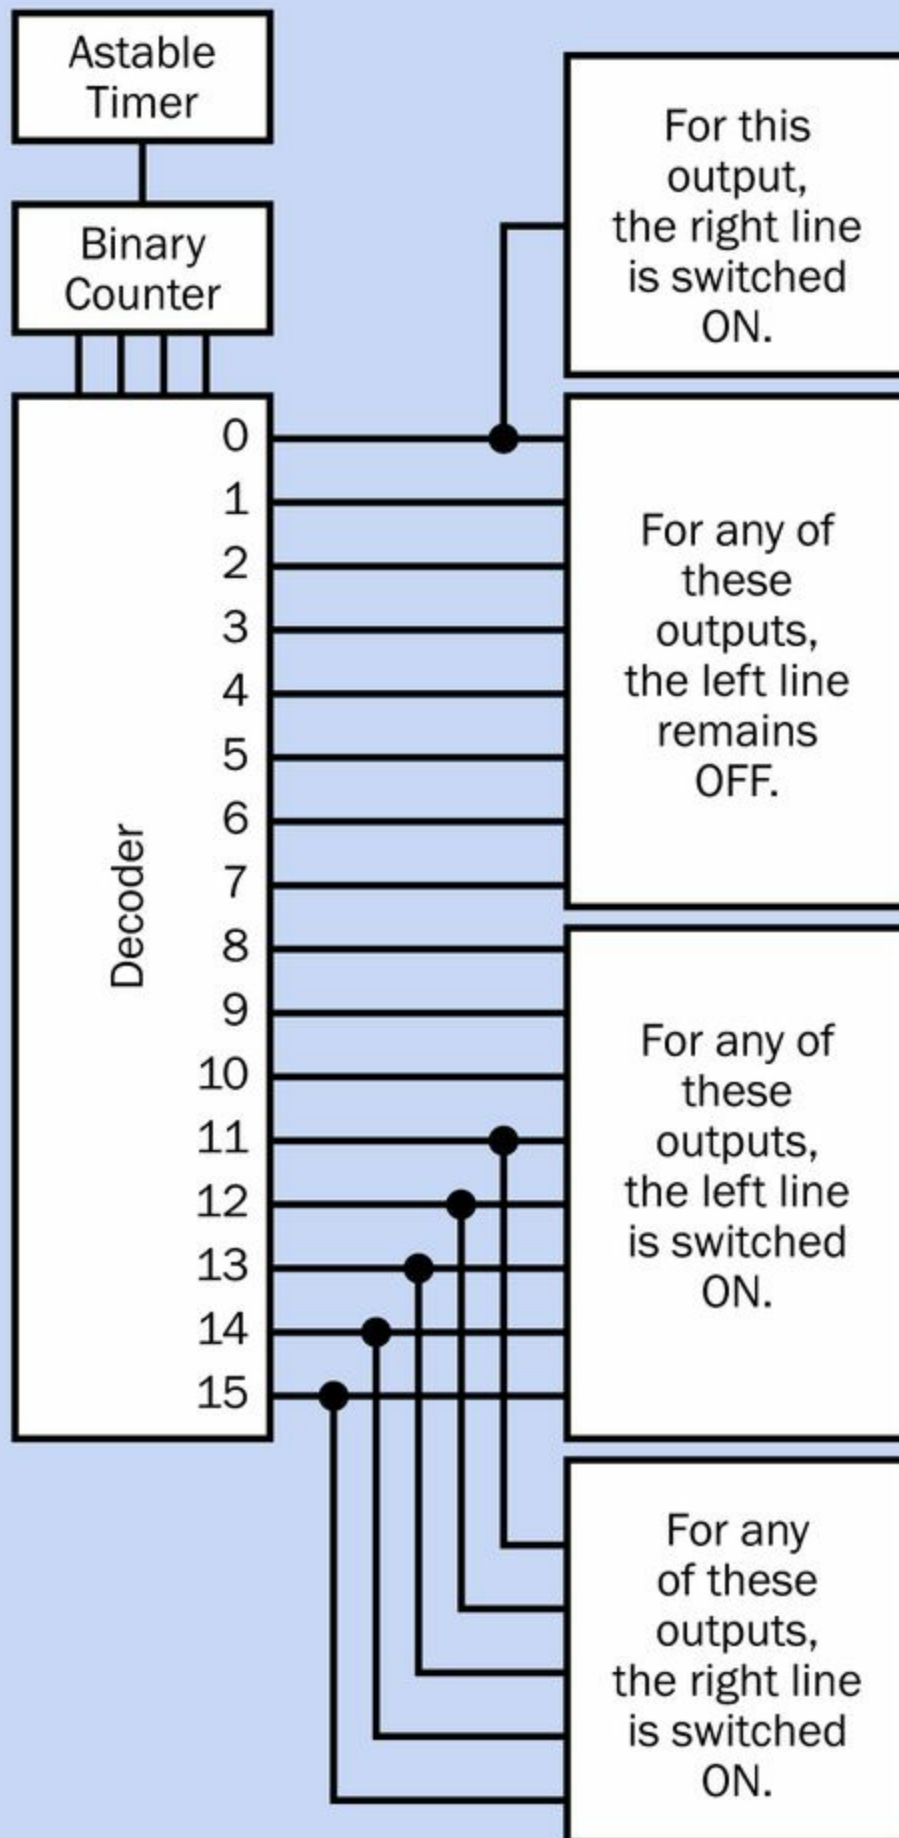

Figure 28-5. How the outputs from a decoder can be grouped so that a random selection has the correct odds for creating a
**Figure 28-5** shows the general idea. The decoder has sixteen outputs, numbered 0 through 15. We could decide that if any of the bottom eight outputs has a high state, the left line in a slice will be solid. That is, the light bars will all be illuminated.
Looking back at **Figure 28-4**, you can see that in the 8 times out of 16 when we have a solid line on the left, 3 of those 8 times there will be a broken line on the right, and 5 of those 8 times there will be a solid line on the right. You can see that I have taken care of this in **Figure 28-5**.